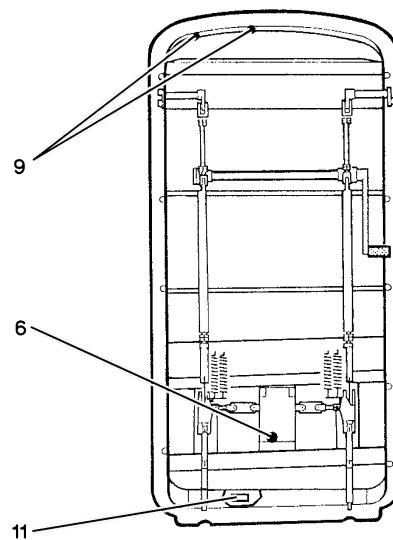
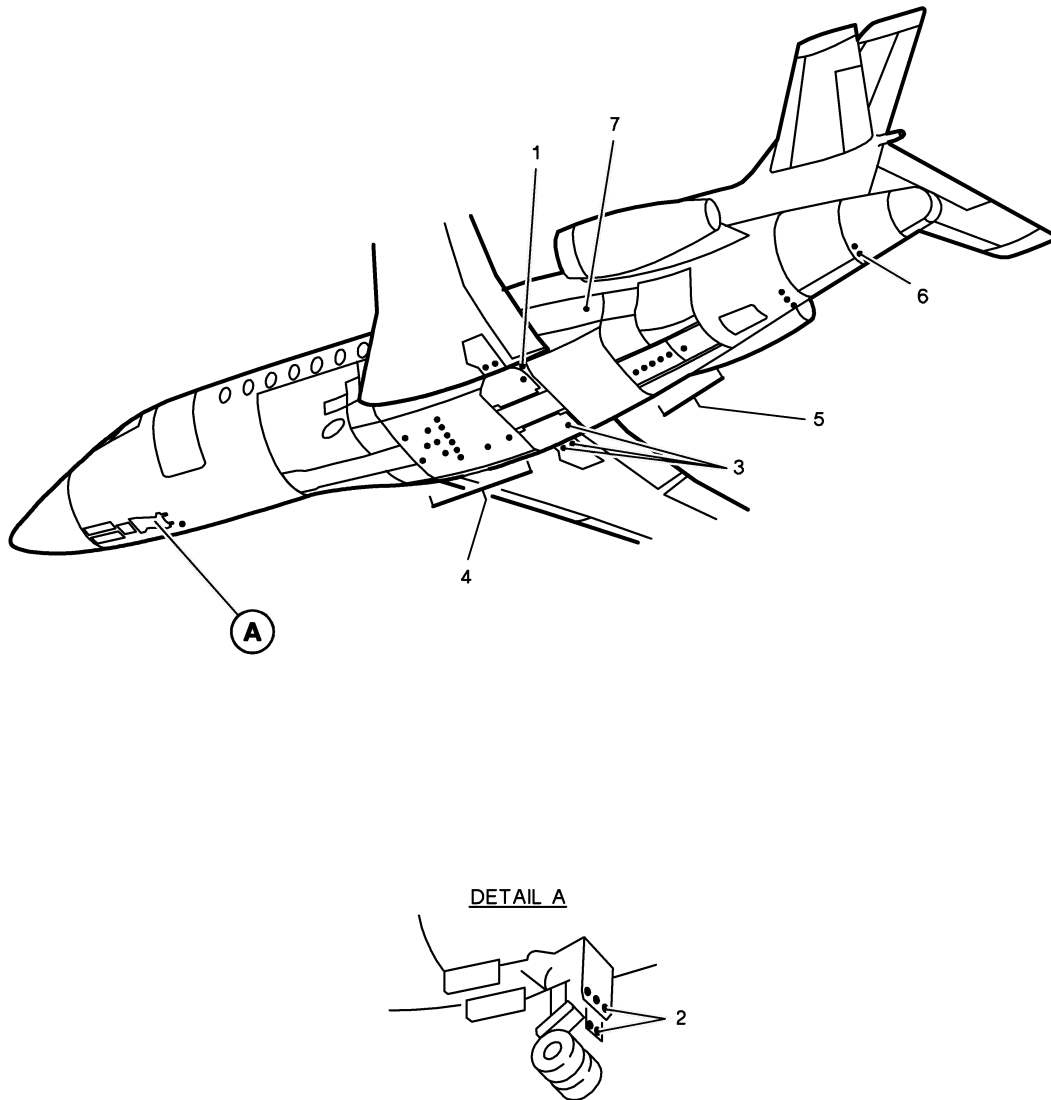
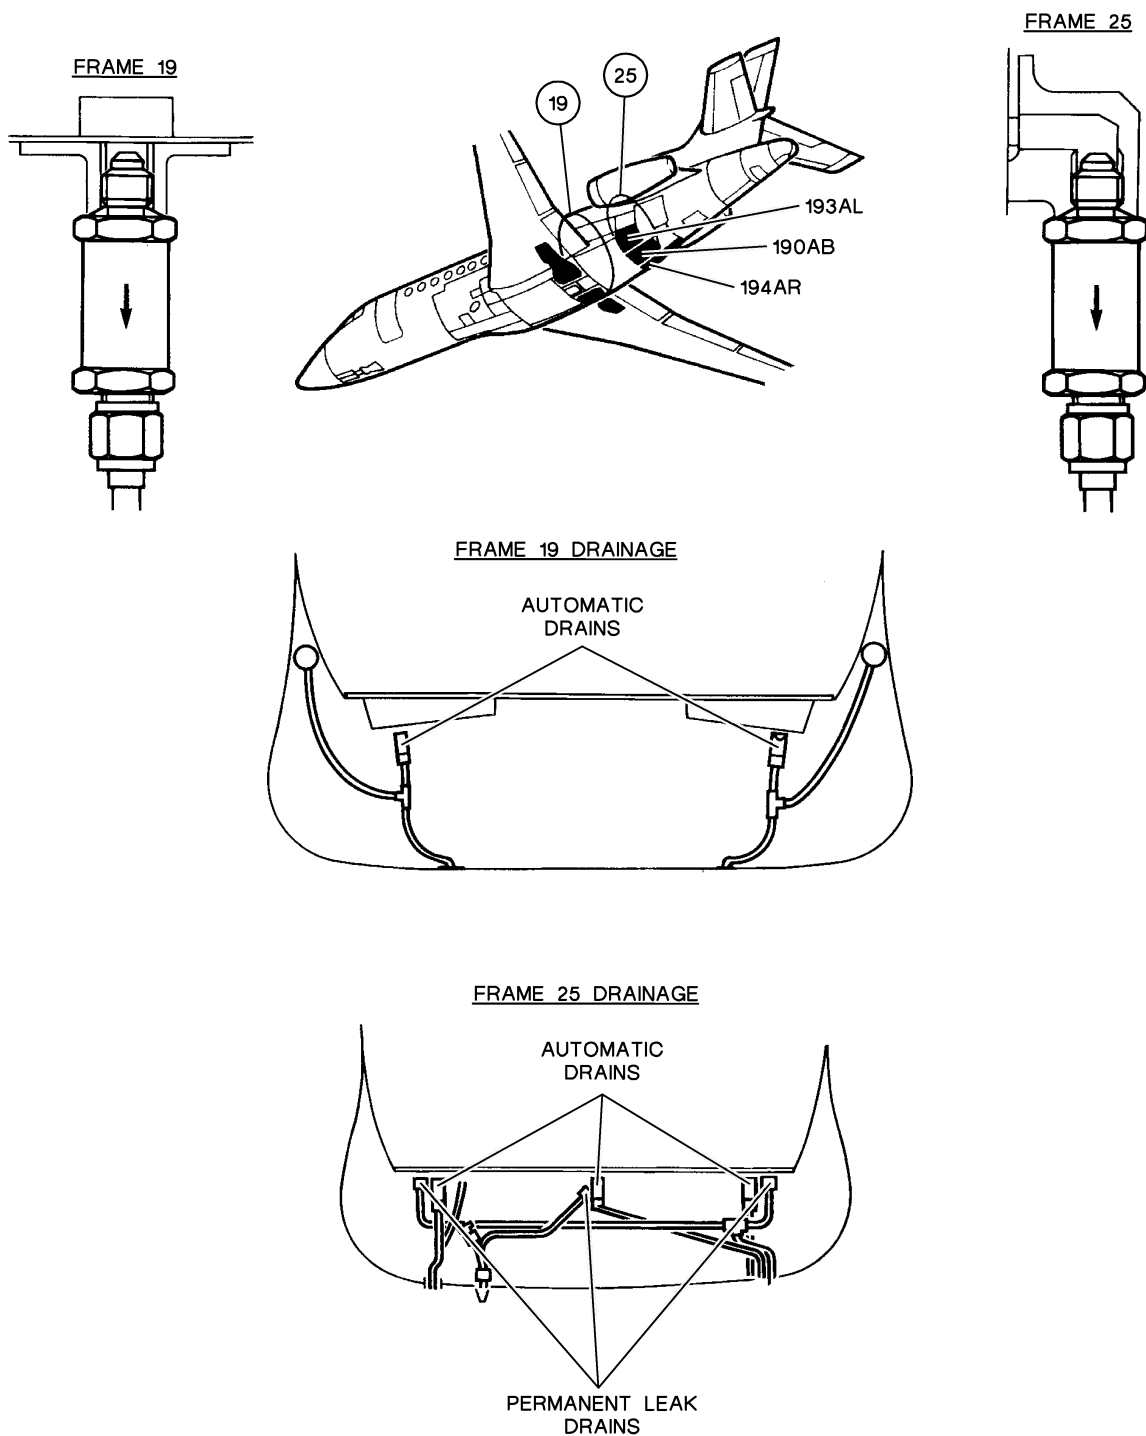
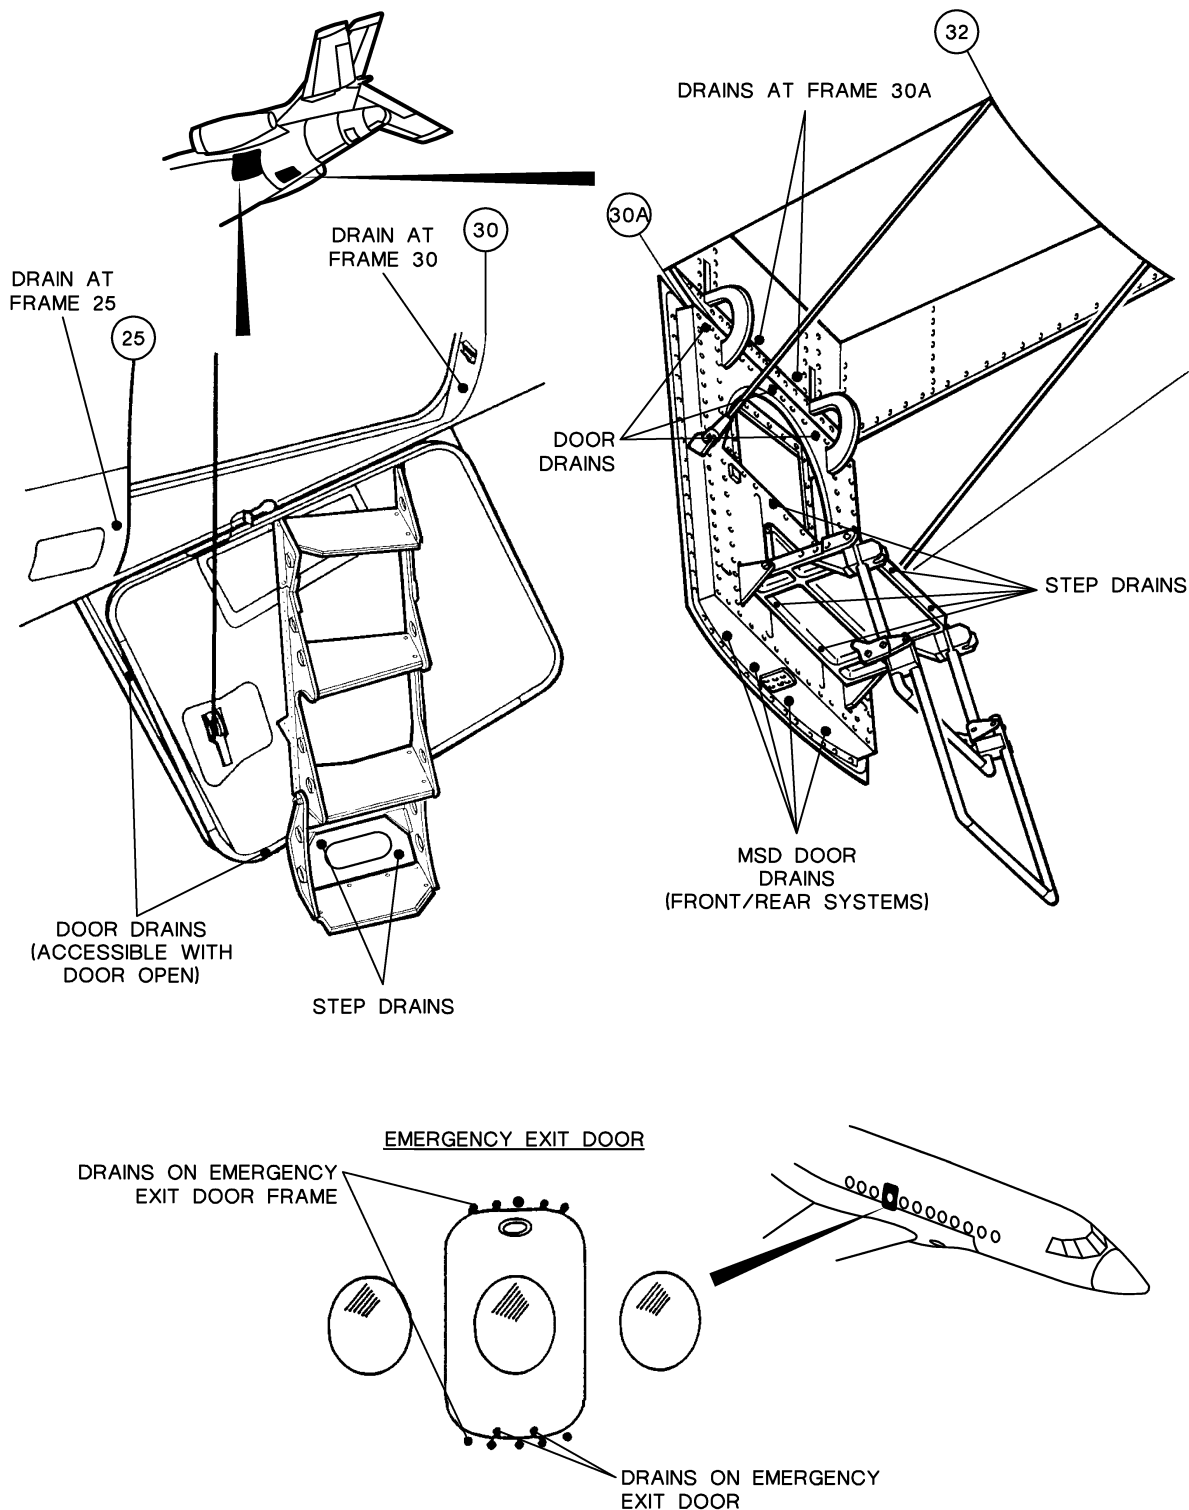

Figure 2: CONDENSATION AND STREAM WATER DRAINS - LOCATION (2/5)
Figure 3: CONDENSATION AND STREAM WATER DRAINS - LOCATION (3/5)
Figure 4: CONDENSATION AND STREAM WATER DRAINS - LOCATION (4/5)
Figure 5: CONDENSATION AND STREAM WATER DRAINS - LOCATION (5/5)
Refer to **fig. 1** and **fig. 2**
- the passenger door automatic flapper drains at the bottom of door structure, on frame 7 side: accessible when the door is open (11, detail A-fig. 2),
Refer to **fig. 1**, **fig. 2**, **fig. 3** and **fig. 5**
(1) Nose cone area (**fig. 1** and **fig. 2**):
- at the nose cone ventilation outlet cover (windshield base) (1-fig. 2),
- at the nose cone lower latches, and on the left of the lower latch located on the left side of the aircraft reference line (3-fig. 2),
- at the windshield wiper fairings, visible when the nose cone (**210A**) is open (4-fig. 2),
- at the nose cone upper latch boxes (5-fig. 2),
- at the opening window track (10-fig. 2).
(2) Passenger door (**PAX**) area (**fig. 2**)
- at the lower recess under the passenger door frame seal, accessible when the door is open (7-fig. 2),
- at the passenger door frame flap (8-fig. 2),
- at the bottom of the passenger door, accessible when the door is open (9-fig. 2),
- at the bottom of the passenger door handle (6-fig. 2).
(3) At the emergency exit door (**EMERG**) and frame (**fig. 5**), accessible when the door is removed.
(4) At the baggage compartment door (**BAG**) and the Mechanic's Servicing compartment Door (**MSD**) and their frames (**fig. 5**), accessible when the doors are open.
(5) Lower fuselage area (**fig. 1**) and (**fig. 3**)
- at the main L/G strut doors and main doors (**731AB**) and (**741AB**) (3-fig. 3),
- at the blanking cover of the main L/G rod attachment point (1-fig. 3),
- at the nose L/G doors (**713AB**) and (**714AB**) (2-fig. 3),
- at the lower fuselage fairings (4-fig. 3),
- at the APU air intake (6-fig. 3),
- at the turbofan (5-fig. 3).
Refer to **fig. 1**, ◆ , **fig. 3** and **fig. 4**
Refer to **fig. 4**